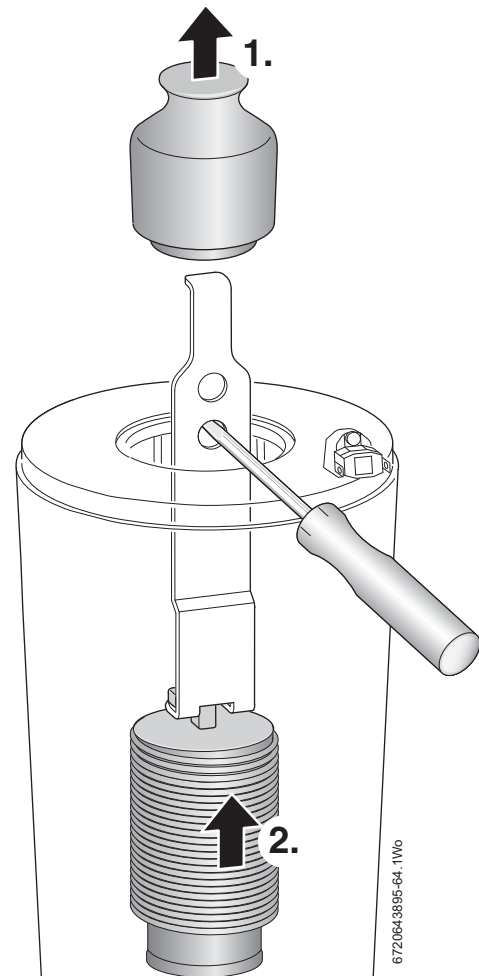

Fig. 62 Baffle removal
1. Refer to figure 62 and remove top baffle.
If the lower baffle is stuck, it may be necessary to use the "Baffle removal tool" from the heat exchanger cleaning kit - 7 716 192 312, as shown in figure 62.
The baffles (1) and (2) must be refitted into the heat exchanger in the order shown in figure 62. Failure to do so may result in damage to the appliance.